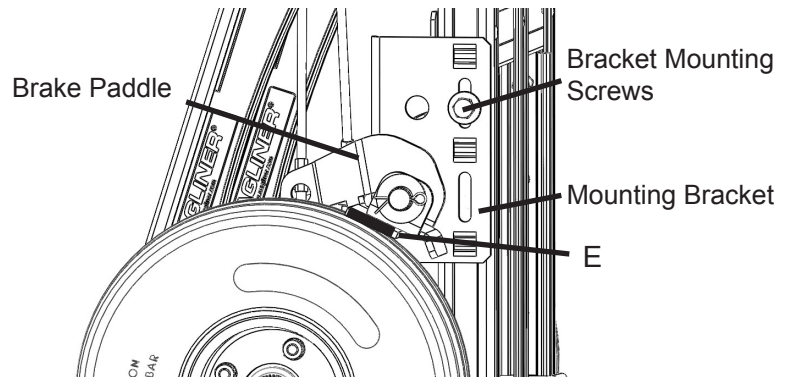

Figure 10
4. Place an adjustment spacer (E) between each of the wheels and their respective brake paddles as illustrated in Figure 10.